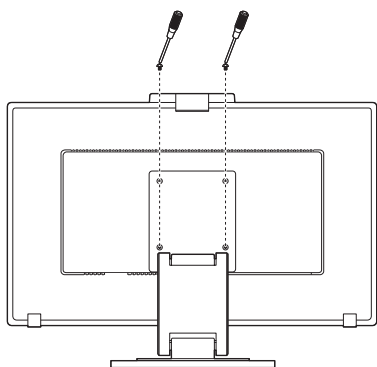

Figure S.2
4. Remove 2 bottom screws first (**Figure S.2**).